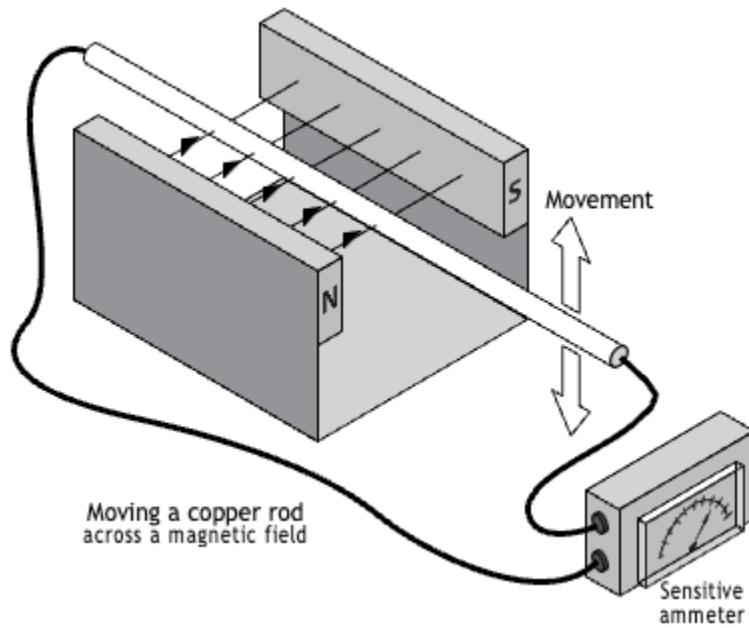

Figure 30 Current flow generated in a conductor (BC Industry Training Authority, 2019). CC BY-NC-SA 4.0
- When a conductor moves through a magnetic field, a voltage is induced in that conductor (Figure 30).